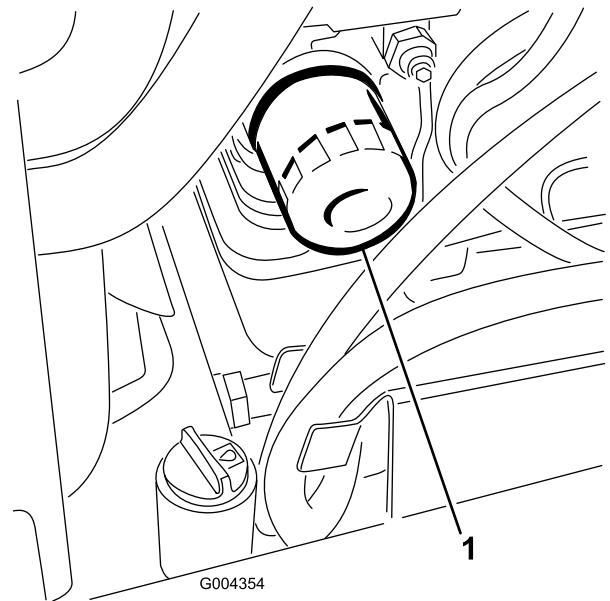

Figure 36
3. Remove the old filter (Figure 36) and wipe the surface of the filter adapter gasket.